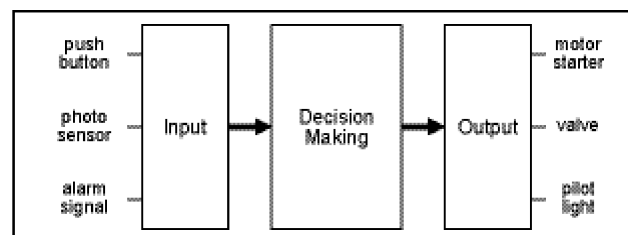

Figure 3
PLC, where we have inputs, outputs and a central processing unit (CPU) that uses ladder logic programming to make decisions based on input status and the logical conditions in the program (see figure 3). A similar device that can be looked at in the same manner is a personal computer (PC). The keyboard, mouse, scanner, etc. would serve as input devices and the monitor, printer, speakers, etc. would be the output devices. The microprocessor used on the motherboard, along with its memory, the operating system, and the application program would serve as the decision making element. As a matter of fact, PCs are used in some automated control systems as the decision making element, together with industrial input and output (I/O) modules. These PC-based systems rely on the communication ports or Ethernet connections to monitor and control the I/O. The application software typically allows a programmer to develop a graphical interface that gives an operator interaction with the equipment or process. With some research and experience, you will learn how to determine how much "decision making" ability your control system requires. Cost restraints may require you to compare implementing the control system with either a PLC, PC-based control, or simple hardwired relay logic. But don't forget the fact that a PLC >>